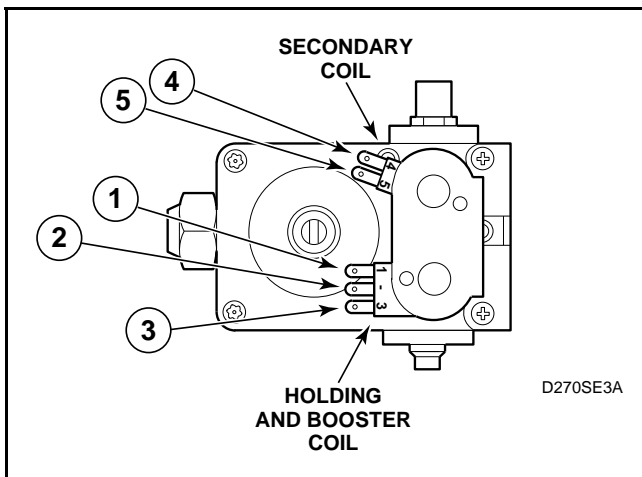

Figure 9
- d. Remove valve wire harness disconnect block from the holding and booster coil. Refer to *Figure 9*.
- e. Set test meter to read Ohms and put meter probes to terminals shown in *Figure 9*, and in the following chart.